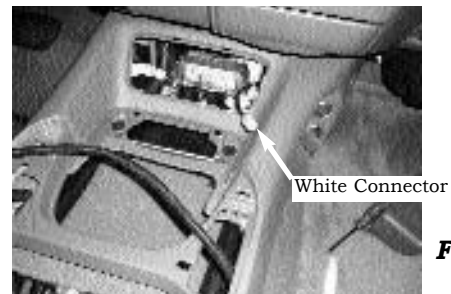

FIGURE 23
1. DISASSEMBLE CONSOLE COVERS (**FIGURE 23**), AND ROUTE HARNESS TOWARD FRONT OF CONSOLE.
2. INSIDE FRONT OF CENTER CONSOLE, LOCATE THE WHITE CONNECTOR FOR THE PASSENGER SIDE AUXILLARY POWER PORTS. T-TAP INTO **WHITE WIRE** (SEE HELPFUL HINT 5 ON PAGE 3). T-TAP INTO **BLACK WIRE** (SEE HELPFUL HINT 5 ON PAGE 3). SEE **FIGURES 23, 24 AND 25**.